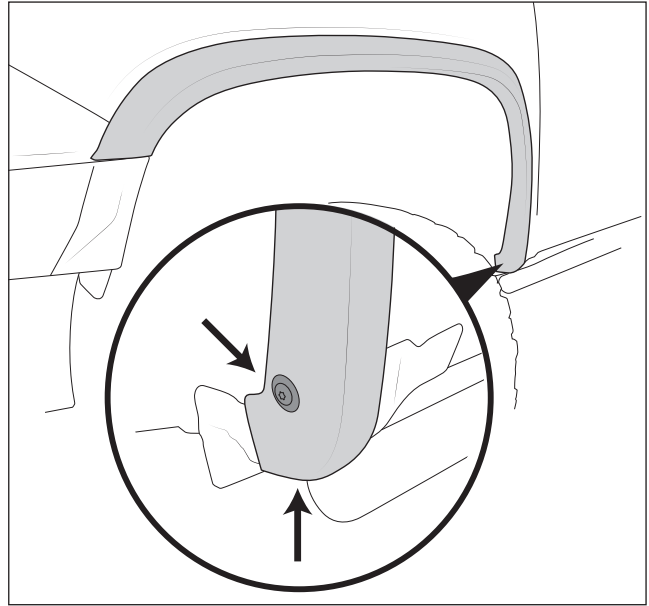

Figure 1
- A. Remove the M4 torx bolts from inside lower wheel wells, and Push Pins from underside of flares (fig. 1).